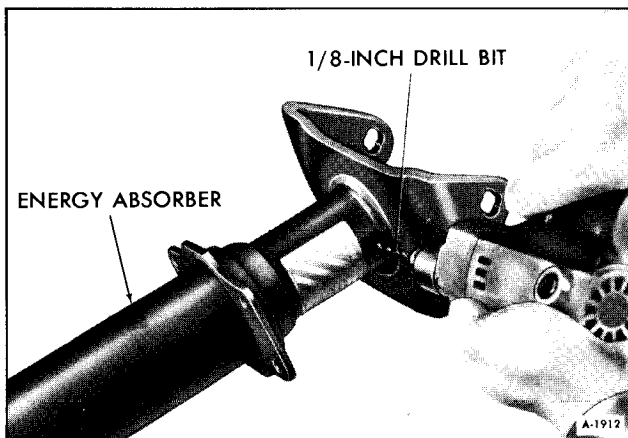

Figure 4—Relieving Pressure from Energy Absorber
4. Relieve gas pressure prior to disposal of a unit. Make an indentation with a center punch in the small cylinder section of the energy absorber (recommend "WARNING" label on the unit as a target area). Then, use a 1/8-inch drill to penetrate the small cylinder and relieve gas pressure (See figure 4).
3. Relieve the pressure by drilling a 1/8-inch hole in the piston tube near the bumper bracket (See figure 4).